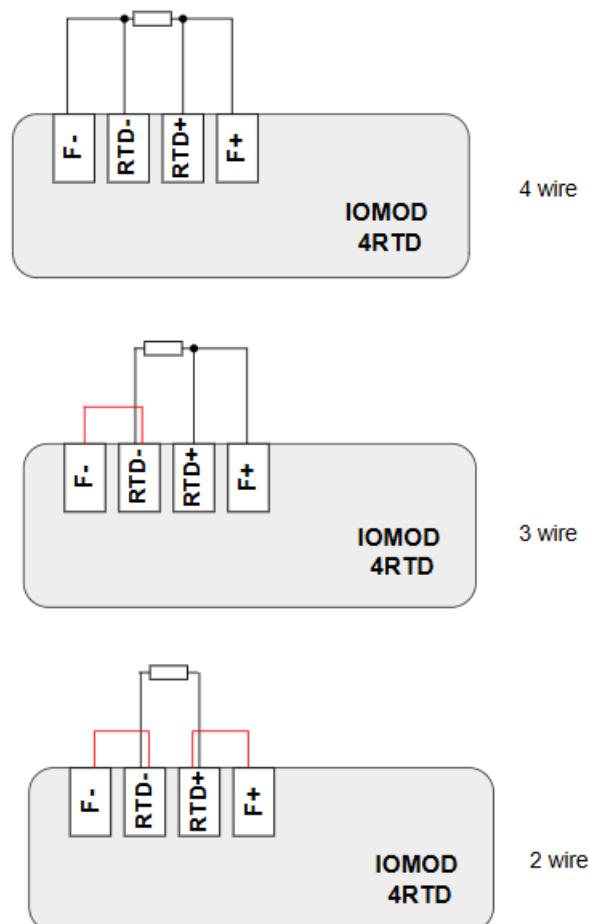

Fig. 4.1.1 3 types of RTD sensor connections. The red wire is shorted on the terminal plug
- 2-wire RTD sensor: connect wire to RTD+ and RTD- terminals. The terminals RTD+ and F+, RTD- and F- must be short circuited (Fig. 4.1.1).
- 3-wire RTD sensor: connect one wire to RTD+, a second wire (compensating lead wire) to F+ and wire to RTD-. The terminals RTD- and F- must be short circuited (Fig. 4.1.1).
- 4-wire RTD sensor: connect wires to RTD+ and F+ terminals and wires to RTD- and F- terminals. There is no need to short circuit any terminal in this scenario. (Fig. 4.1.1).